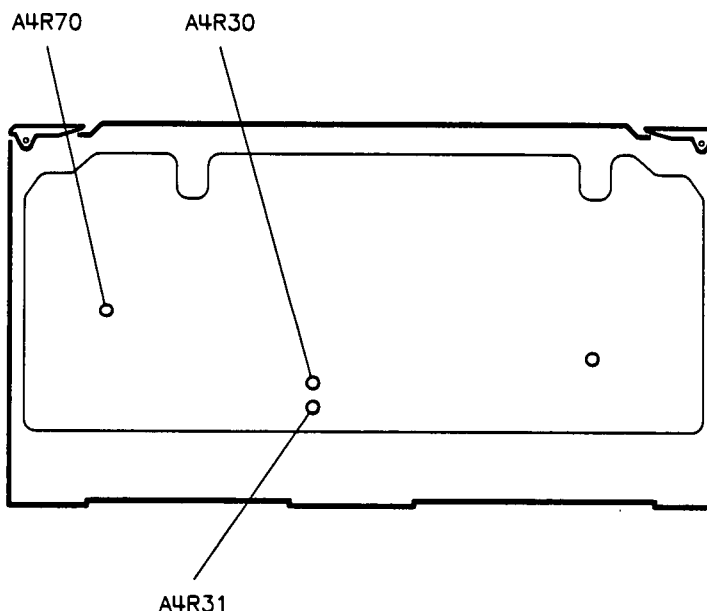

Figure 3-6. Fractional-N Reference and API Spurs Adjustment Locations
5. On the synthesizer, adjust A4R70 (see figure 3-6) for minimum signal on the spectrum analyzer.
8. On the synthesizer, adjust A4R31 (see figure 3-6) for minimum signal on the spectrum analyzer.
11. On the synthesizer, adjust A4R30 (see figure 3-6) for minimum signal on the spectrum analyzer.